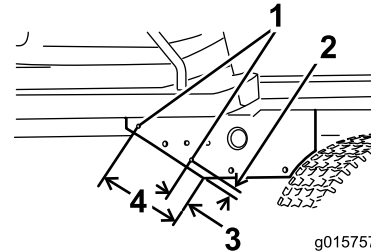

Figure 9
- C. Drill the holes in the front frame as specified in Figure 9.